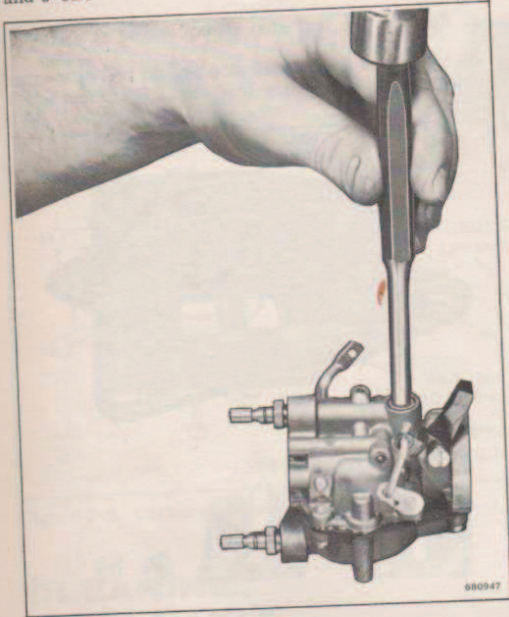
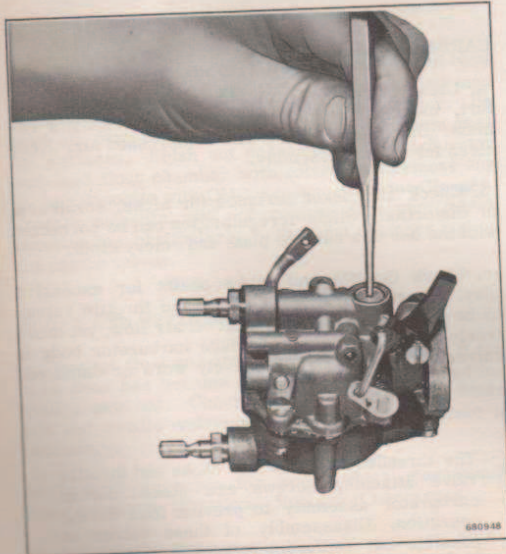

Figure 3-10. Re-Seating Core Plug
Figure 3-11. Removing Core Plug
a. If leakage occurs at a core plug area, a smart tap with a hammer and flat end punch in the center of the core plug will normally correct this condition. See Figure 3-10. If necessary, remove core plug to clean out slow speed orifice holes. See Figures 3-11 and 3-1B.
the center of the core plug to a depth of not more than 1/16 inch below its surface. With a punch, carefully pry out the core plug. See Figure 3-11.